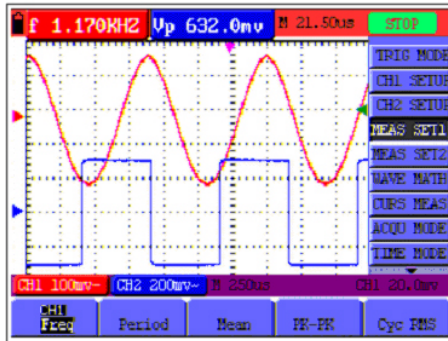

Figure 10: Automatic scope measurements.
3. Press **F4** key to select **PK-PK CH2** from Peak-Peak item. The **measurement 2** window turns its color to be blue and shows the peak-peak value for input CH2. (See the following figure 10).